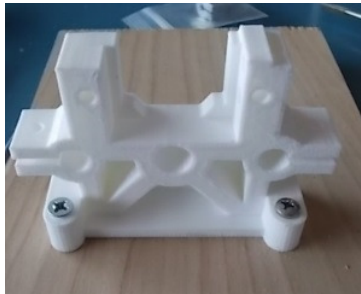

Figure 8. Syringe end holder screwed to plywood support.
**Part2d, Syringe mount assembly:** The syringe mount is the front part of the pump, Figure 8. The syringe mount also connects the front limit switch. The limit switch is connected using \_\_\_ mm 2.5 M machine screws and nuts. The nuts are fitted into inside of the plastic syringe mount and drawn into the recess as shown in Figure 9.